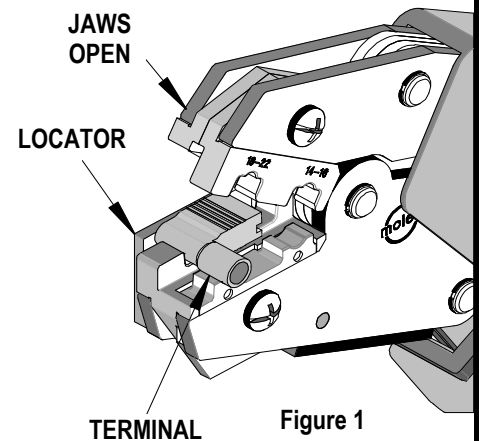

Figure 1
1. Insert the terminal with the barrel into the color-coded nest and the square edge of the flag facing out for 14-16 AWG and in for 18-22 AWG. Make sure the back of the flag terminal is against the locator. See Figure 1. If terminal is not flush against the locator loosen the M4 wing nut and adjust the locator up or down so that the flat edge of the terminal is flush against the wall of the locator. Tighten the M4 wing nut. See Figure 3.